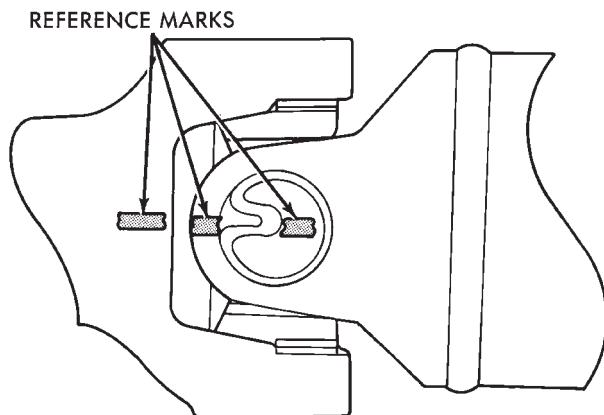

Fig. 5 Marking Propeller Shaft And Axle Yokes
- (1) Shift transmission into first or third gear.
- (2) Raise and support vehicle on suitable safety stands.
- (3) Disconnect necessary exhaust system components.
- (4) Remove skid plate, if equipped.
- (5) Remove slave cylinder from clutch housing.
- (6) Mark rear propeller shaft and rear axle yokes for installation alignment (Fig. 5).